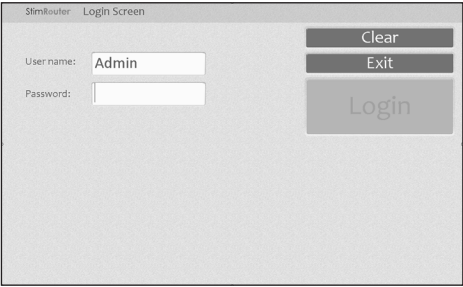

Figure 6-3: The StimRouter Plus Software Login Screen
2. If the login screen does not open automatically, then, press "Start" and then StimRouter to open the clinician programming software. Wait for the login screen to load. **See Figure 6-3.**